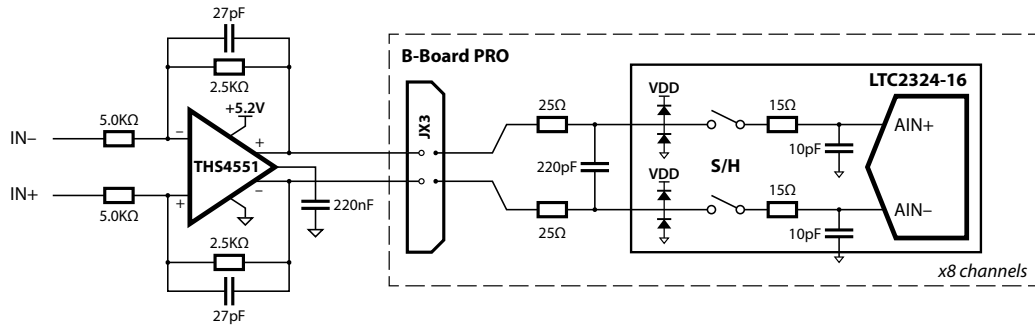

Fig. 5. Recommended carrier schematic for the ADC signals with +5.2V power supply.
- » THS4551 for a full-differential solution with a single +5.2V power supply. An example is given in Fig. 5.